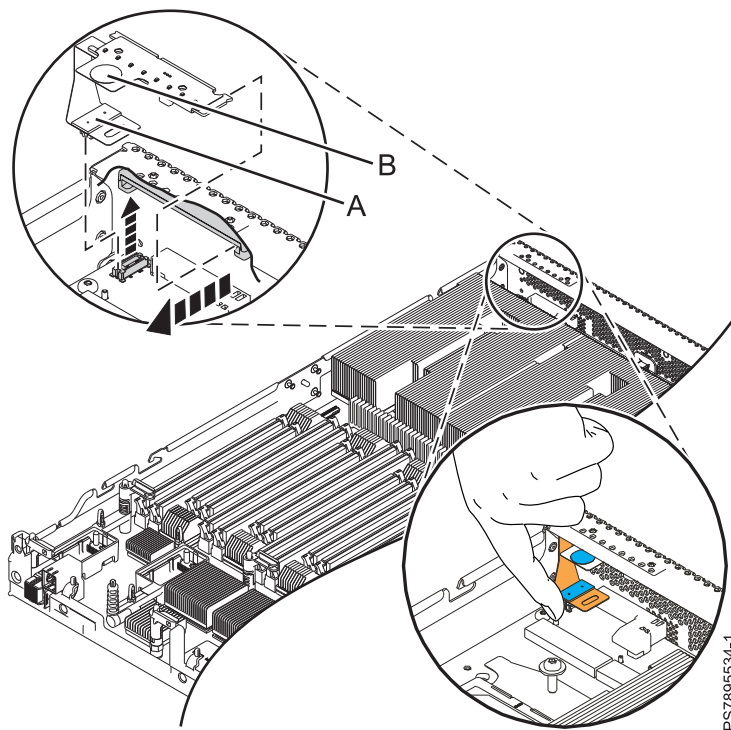

Figure 29. Removing the light path diagnostics panel
To remove the light path diagnostics panel, which is shown in Figure 29 on page 66, complete the following steps.
6. Disconnect the cable **(A)** from the system board. For best maneuverability, orient yourself in front of the compute node. Use your index finger to reach under the cable connection and pull it up, as shown in Figure 29 on page 66.